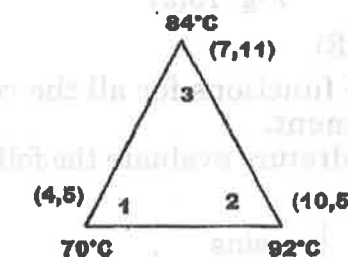

Fig. 14(a)
14. a) i) The nodal co-ordinates for an axi-symmetric triangular element are given below. $r_1 = 10 \text{ mm}$, $r_2 = 40 \text{ mm}$, $r_3 = 40 \text{ mm}$, $z_1 = 10 \text{ mm}$, $z_2 = 10 \text{ mm}$, $z_3 = 50 \text{ mm}$. Evaluate strain displacement matrix. (10)
- ii) Nodal values of the triangular element is shown in Fig. 14 (a). Evaluate element shape functions and calculate the value of temperature at a point whose coordinates are given (5,7). (6)